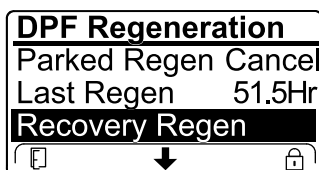

Figure 53
- If the engine computer has not requested a recovery regeneration and you scroll down to the RECOVERY REGEN option, the recovery regeneration locks and the lock icon (Figure 53) appears in the lower right corner of the InfoCenter.